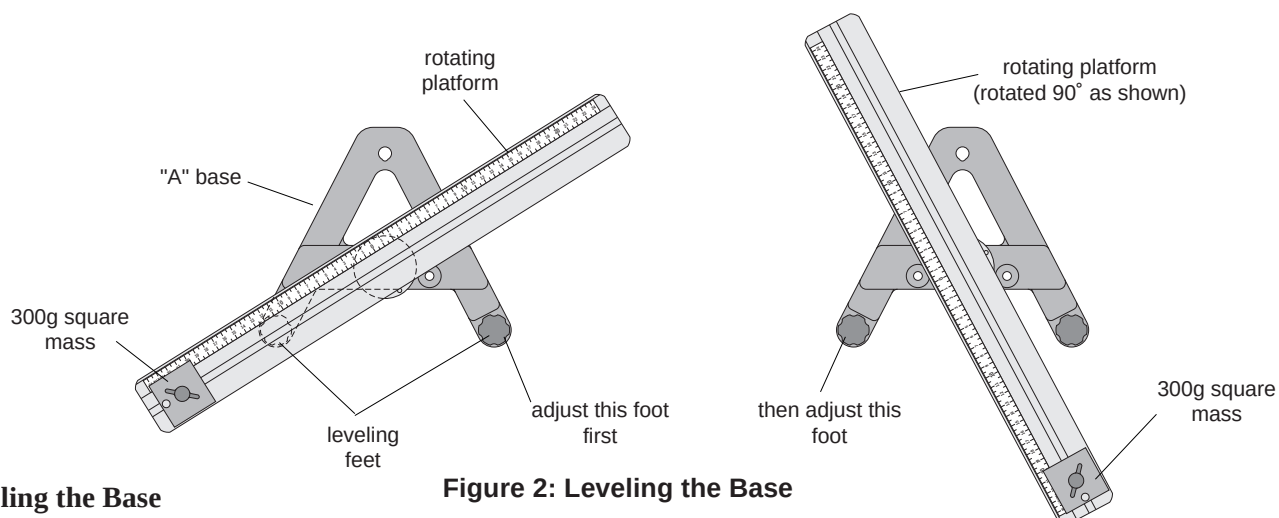

Figure 2: Leveling the Base
- ① Purposely make the apparatus unbalanced by attaching the 300 g square mass onto either end of the aluminum track. Tighten the screw so the mass will not slide. If the hooked mass is hanging from the side post in the centripetal force accessory, place the square mass on the same side.
- ② Adjust the leveling screw on one of the legs of the base until the end of the track with the square mass is aligned over the leveling screw on the other leg of the base. See Figure 2.
- ③ Rotate the track 90 degrees so it is parallel to one side of the "A" and adjust the other leveling screw until the track will stay in this position.
- ④ The track is now level and it should remain at rest regardless of its orientation.